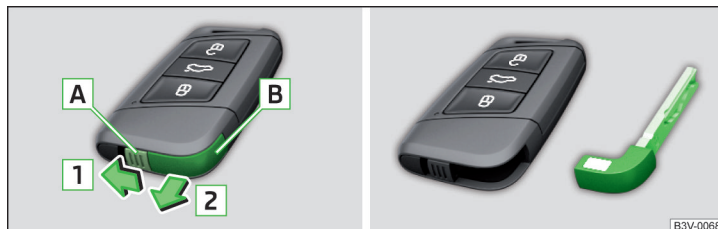

Fig. 51 KESSY key
- ▶ Remove retainer tabs **A** in the direction of arrow **1** » Fig. 51.